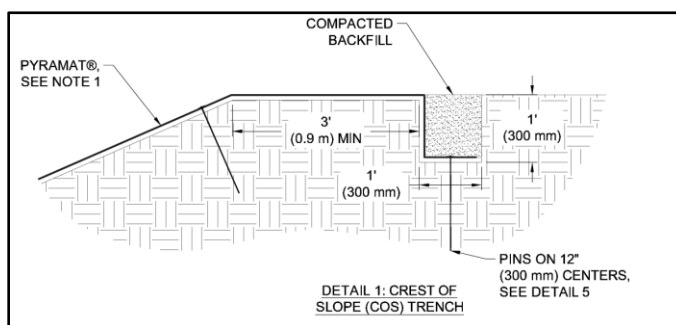

Figure 2: Crest of Slope (COS) Trench
- Excavate a Crest of Slope (COS) trench a minimum of 12 in x 12 in (300 mm x 300 mm) along both sides of the installation. Each COS trench must be a minimum of 3 ft (900mm) over the crest of the bank, preferably on a relatively flat surface (Figure 2).